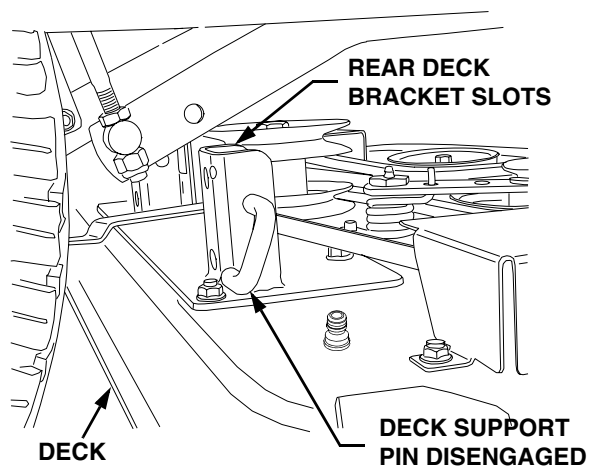

Figure 46
- If not already done, pull the deck support pins outward, turn downward and release so both spring-loaded pins are held in the disengaged position against the outer surface of the deck brackets (See Figure 46).